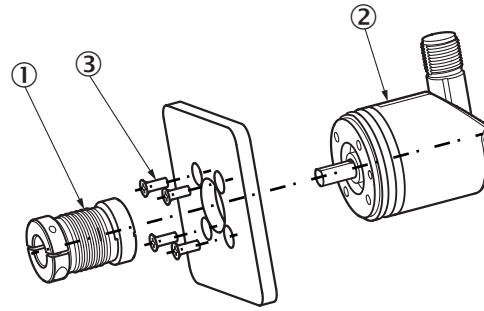

Figure 1: Mounting via the threaded holes on the flange side
3.1.1 Mounting via threaded holes on the flange side (Fig. 1)